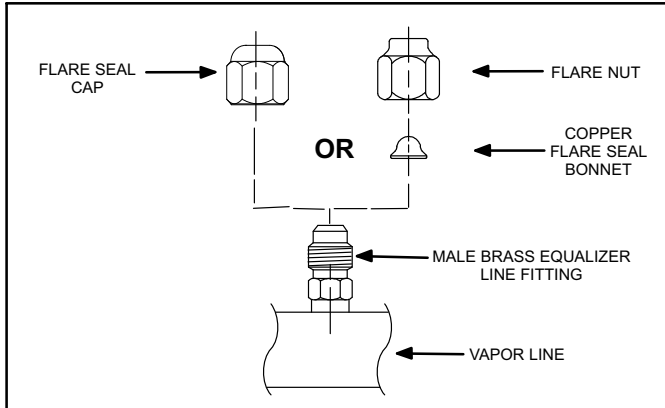

Figure 7. Copper Flare Seal Bonnet Removal
- Remove and discard either the flare seal cap or flare nut with copper flare seal bonnet from the equalizer line port on the suction line as illustrated in figure 7.